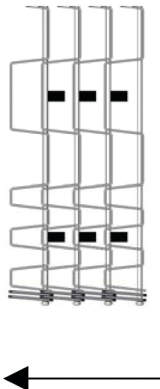

Figure 1
- The belt should be placed on the conveyor with proper orientation to the direction of travel (*Figure 1*).